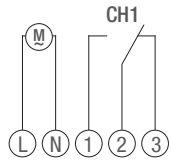

Fig. 5: Circuit diagram
3. Connect the clock timer in accordance with the circuit diagram (Fig. 5).